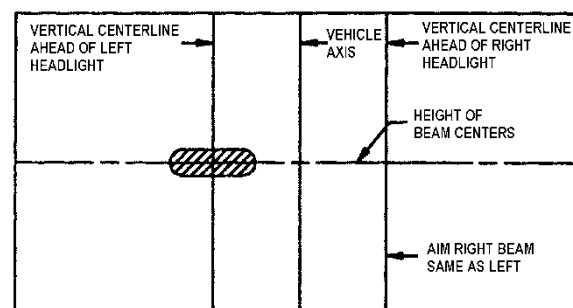

FIGURE 67: UPPER BEAM HIGH-INTENSITY ZONE PROPER LOCATION ON SCREEN
- High beam headlamps are aimed so that the center of the high-intensity zone is located at the horizontal and straight ahead vertically (Figure 67).